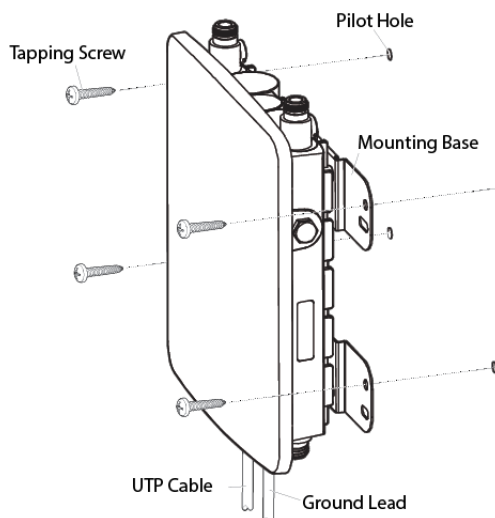

Figure 17. Installing to the Wall Using Tapping Screws
4. Drive the tapping screws into the holes made in Step 2 to install the access point. See Figure 17 on page 44.